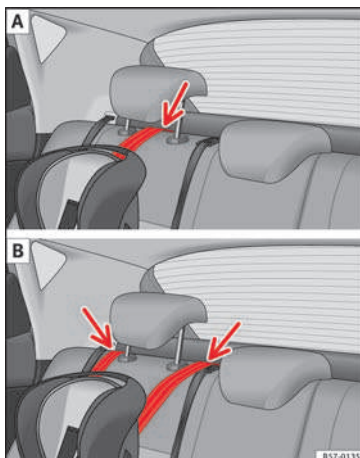

Fig. 30 Retainer strap: adjustment and assembly according to the Top Tether belt.
- Place the belt under the head restraint of the back seat » **Fig. 30** (depending on the in-